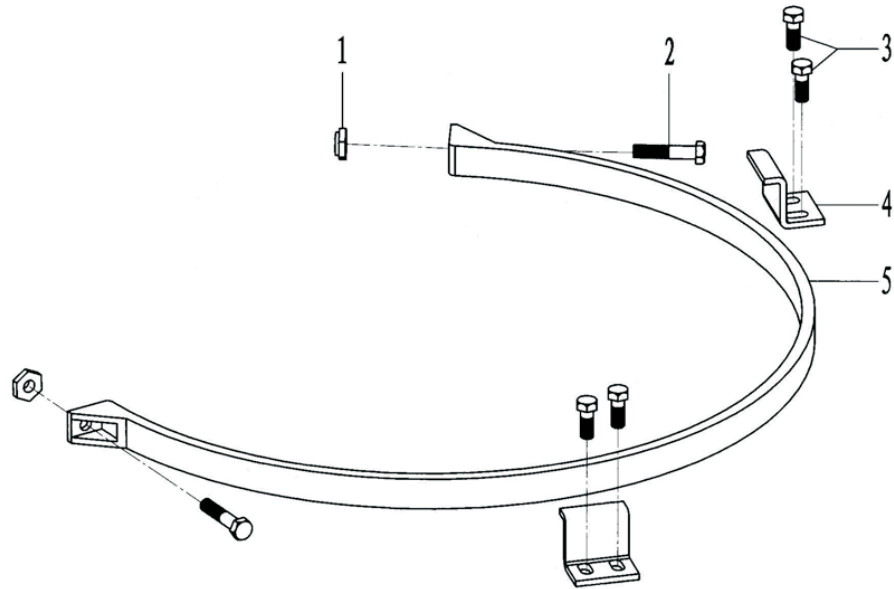

Fig.16
7.14 Assembly of brake band (Fig 16, Table 16)